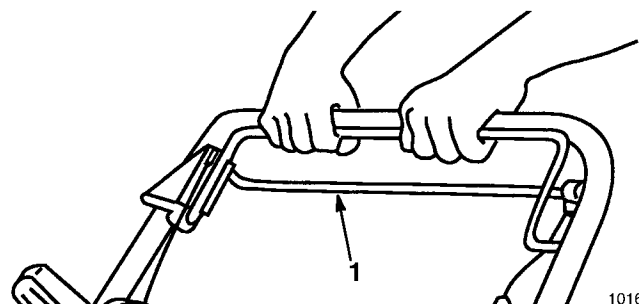

**Figure 15**
1. To operate self-propelled drive squeeze self-propelled bail against handle and hold (Fig. 15).